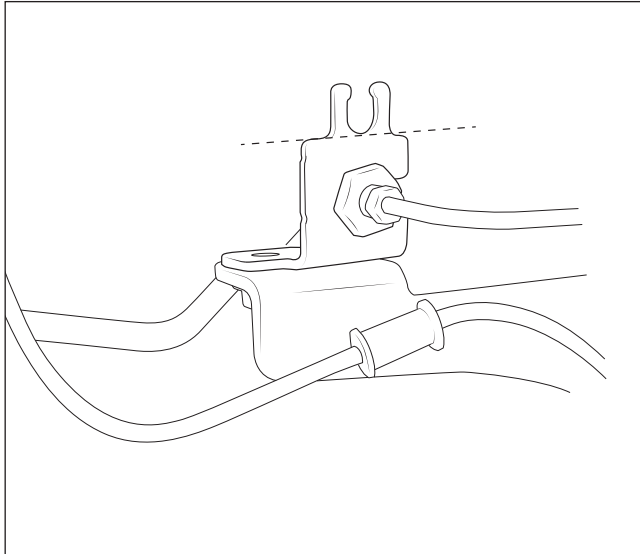

Figure 32
12. Trim the factory soft brake line bracket as shown (fig. 32).
13. Attach the factory soft brake line bracket to the AEV brake line bracket. Use the supplied P-clip to secure the wheel speed sensor wire to the brackets (fig. 32).